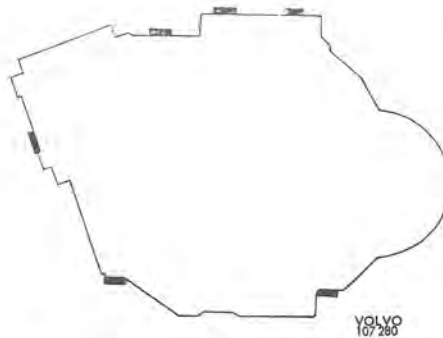

Fig. 8-64. Placing clamps for middle connector
9. Fit the left half. When assembling use clamps with part No. 676234, which are fitted with pliers as shown in Fig. 8-48. Concerning the location of these clamps, see Fig. 8-64.